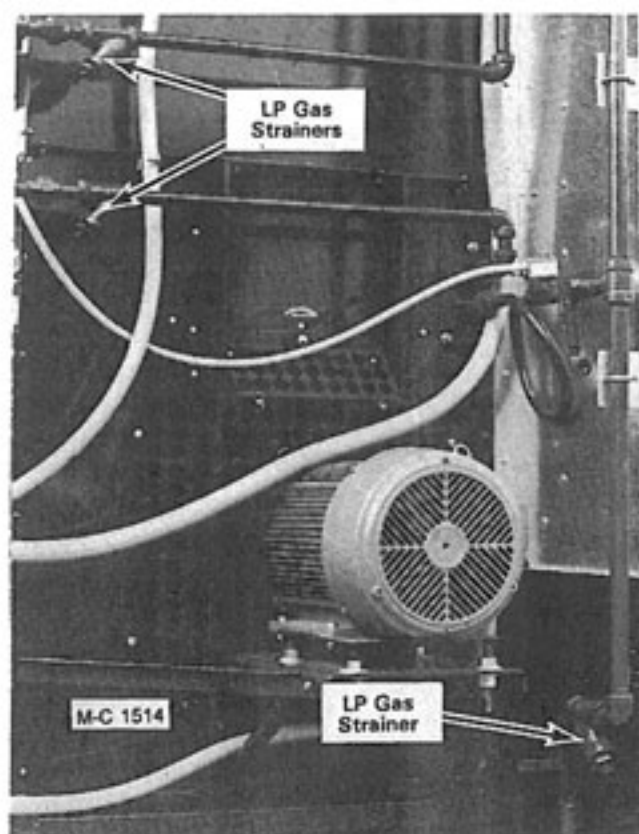

Figure 33
7. LP Gas - Remove the plug at the end of each strainer, see Figure 33. Remove and clean the screen in each strainer. Check flexible LP hoses for signs of fatigue, replace as necessary.